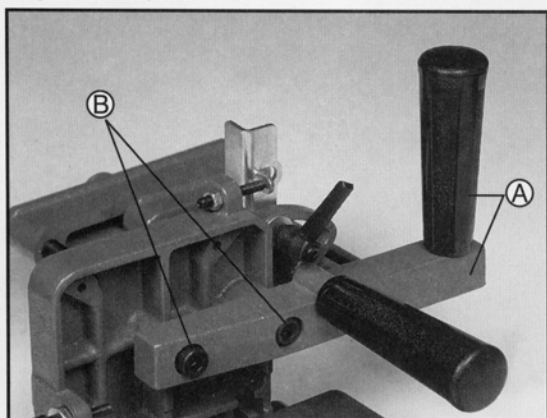

FIGURE 3
1. Fasten clamp arm (A), figure 3, to the back of the work support plate using two M10 × 25mm socket head screws (B) and lockwashers, as shown.